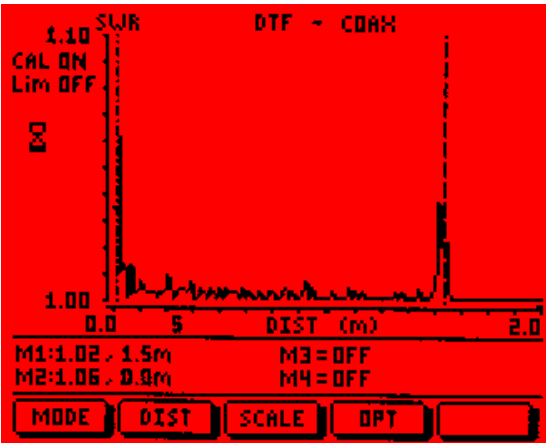

Figure 3-12. DTF-SWR Measurement Results (cable quality)
- Step 28.** Press the **MORE** soft key and then the **PEAK** soft key to find the worst case Return Loss (or SWR) reading. (See Figures 3-12 and 3-13.)